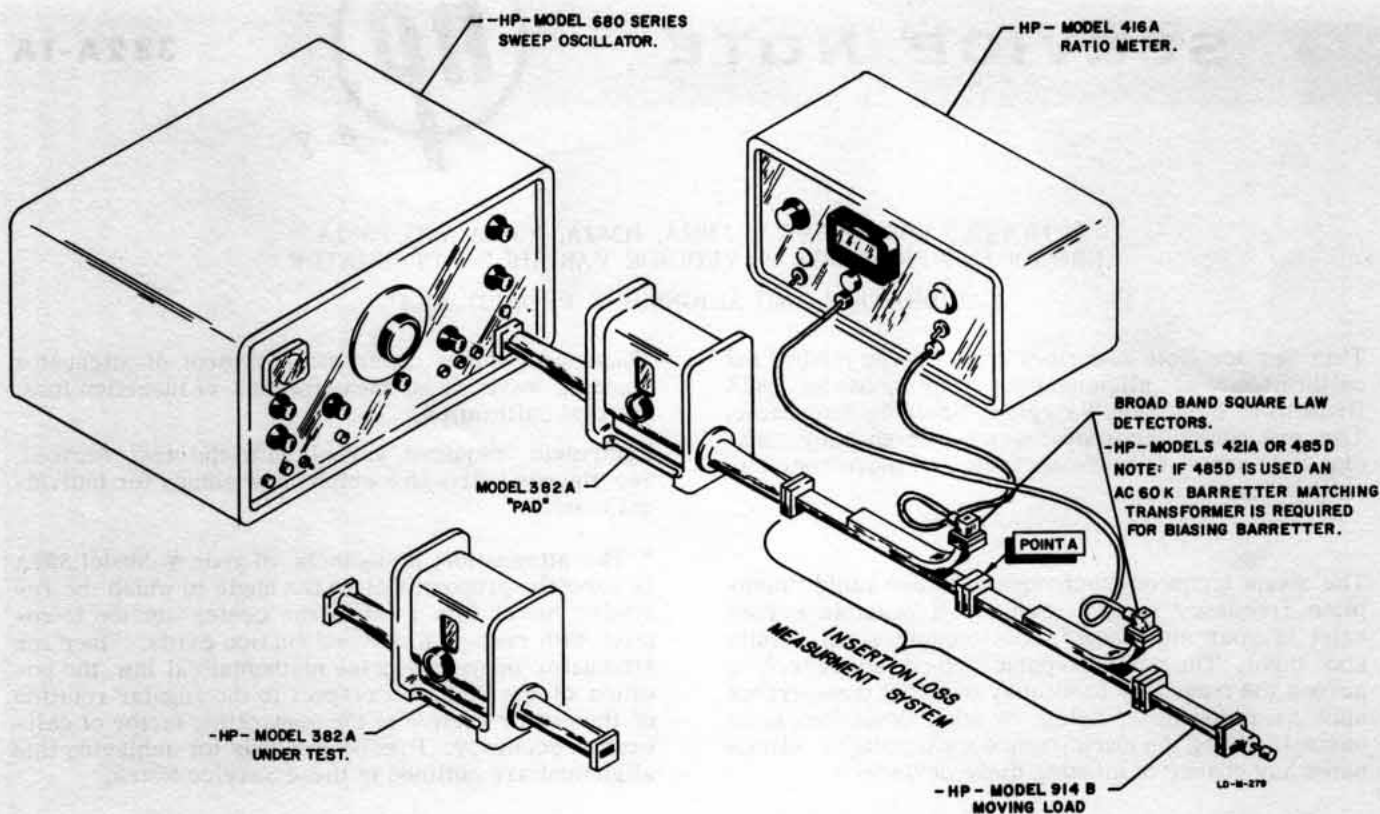

Figure 2. Test Setup for Measuring Insertion (Fixed) Loss
- 8) Set up test equipment as shown in figure 2.